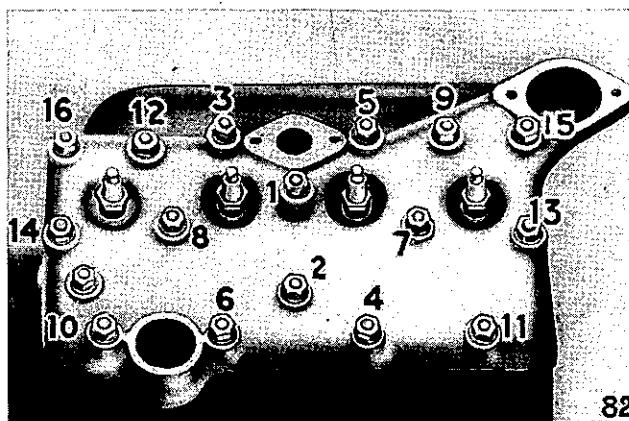

Fig. 31. Showing order for tightening cylinder head nuts.
6. When fitting the cylinder head and tightening down the holding nuts, these should be tightened progressively and in the order indicated in Fig. 31.
4. When refitting combustion head securing nuts, regard sequence indicated in Fig. 31, tightening these progressively. Failure to tighten holding nuts symmetrically may cause distortion of the cylinder head.